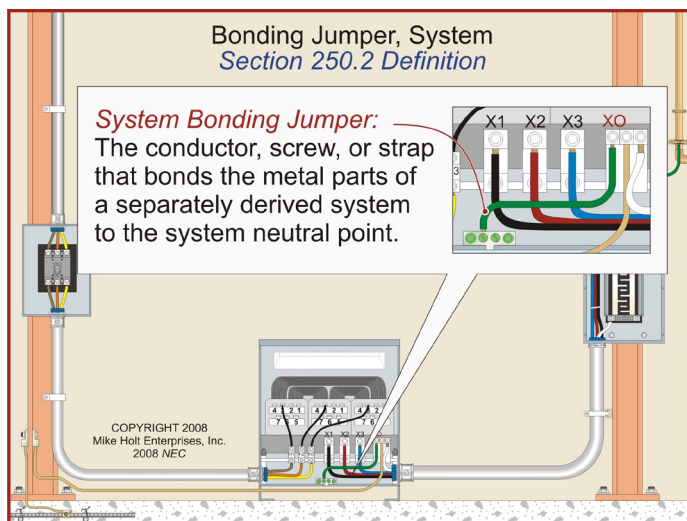

Figure 250-1
**Bonding Jumper, System.** The conductor, screw, or strap that bonds the metal parts of a separately derived system to the system neutral point according to 250.30(A)(1). **Figure 250-1**